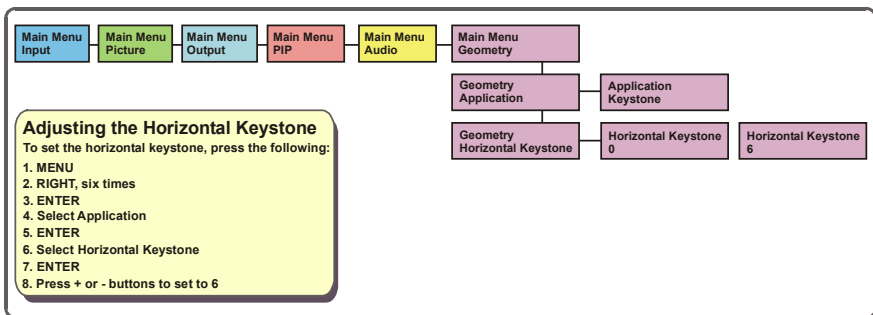

Figure 26: Example of how to use the LCD Display
2. Press the appropriate front panel OSD buttons (as defined in Figure 26).